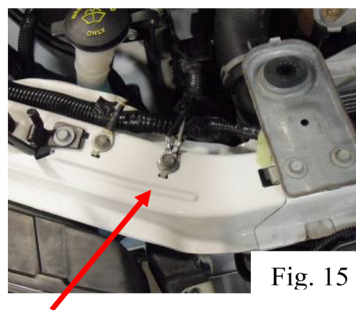

Fig. 15
36) The black and grey ground cables should be connected to the bolt on the radiator support where the two factory ground wires are attached. The weatherpack connectors can be connected to the fans at this point. The longer fan lead should be connected to the driver side fan (Fig. 15).